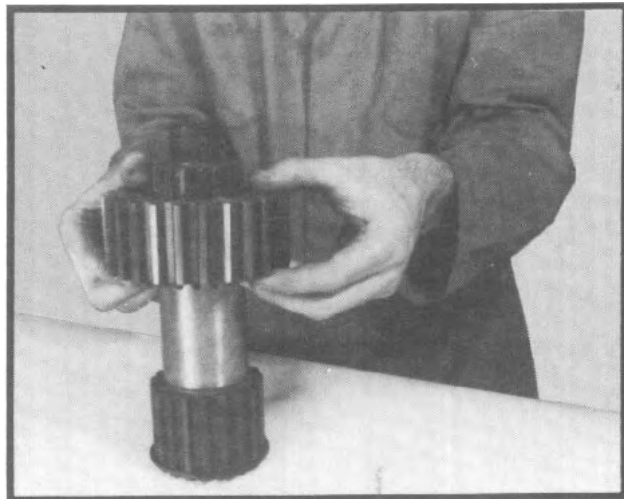

Fig. 185
19. Install snap ring on output shaft and slide clutch gear onto output shaft. (See fig. 185.)